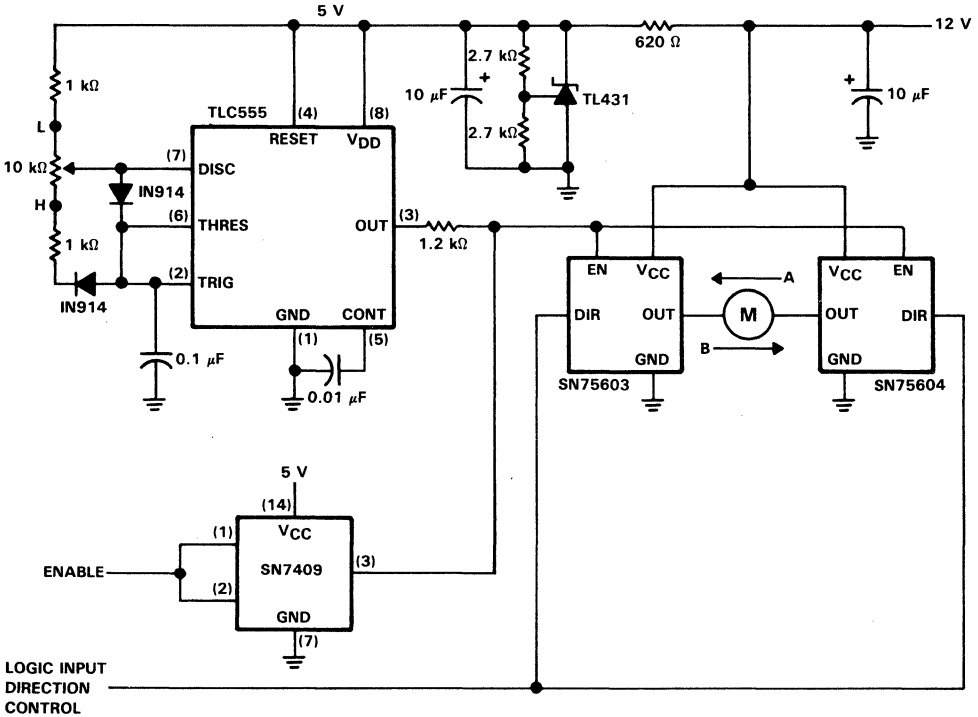

FIGURE 7. SN75603 AND SN75604 IN A BIDIRECTIONAL MOTOR CONTROL APPLICATION WITH SPEED CONTROL
The SN75603 and SN75604 are recommended for continuous current applications of up to 2 amperes. The application shown in Figure 7 illustrates a reversible dc motor drive circuit with adjustable speed control. The DIR inputs for these drivers are complementary and therefore may be tied together and driven from the same logic control for bidirectional motor drive. The enables (EN) are tied together and driven by a pulse-width-modulated generator providing "on" duty cycles of 10% to 90% for speed control. A separate enable control is provided through a SN7409 logic gate.